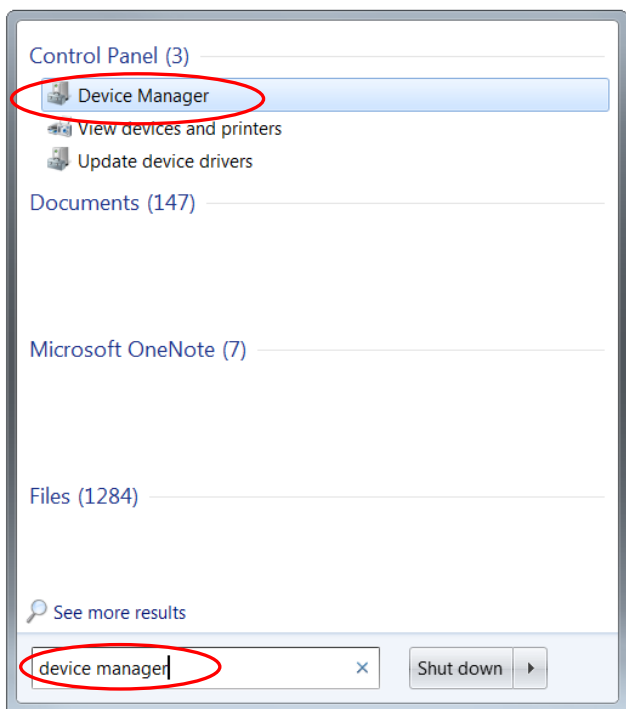
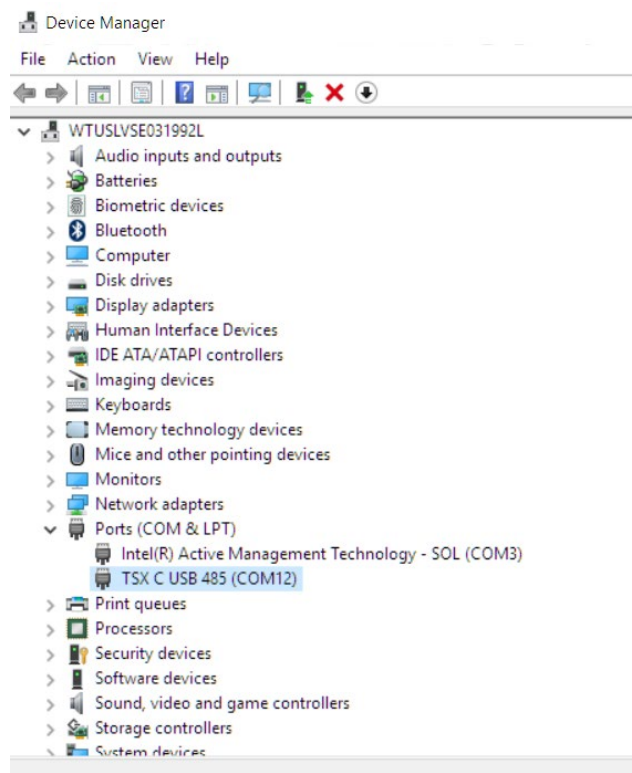

Figure 14
Figure 15
6. Identify the USB COM port used by the TCSMCNAM3M002P. To do so, connect the cable at both ends, click the Start menu on your PC and search for “Device Manager”, as in Figure 14. Open the Device Manager, then, click on Ports (Com & LPT) and read the number of the port “TSX C USB 485”: In the example below, it is **COM12**, as in Figure 15.